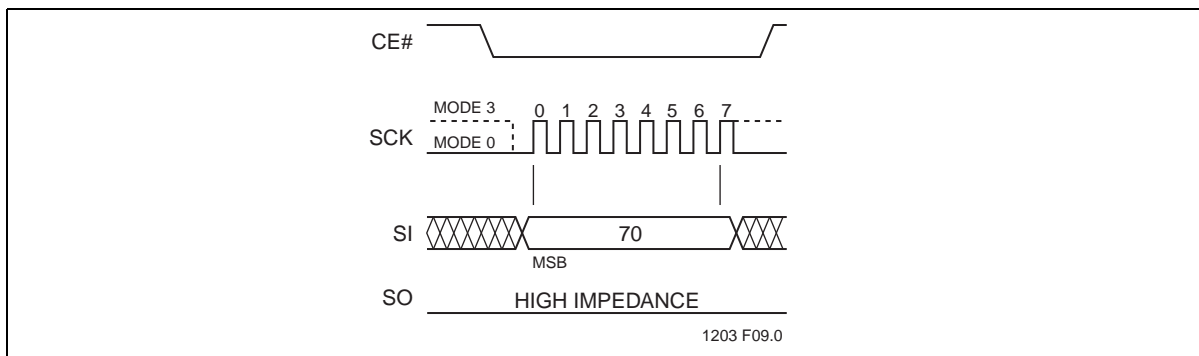

Figure 10:Enable SO as Hardware RY/BY# during AAI Programming
The Hardware End-of-Write detection method eliminates the overhead of polling the Busy bit in the Software Status Register during an AAI Word program operation. The 8-bit command, 70H, configures the Serial Output (SO) pin to indicate Flash Busy status during AAI Word programming, as shown in Figure 10. The 8-bit command, 70H, must be executed prior to executing an AAI Word-Program instruction. Once an internal programming operation begins, asserting CE# will immediately drive the status of the internal flash status on the SO pin. A '0' indicates the device is busy and a '1' indicates the device is ready for the next instruction. De-asserting CE# will return the SO pin to tri-state.